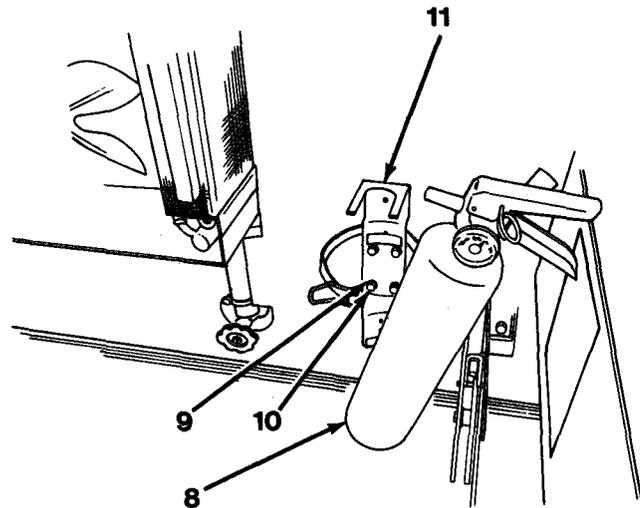

Figure 14-2
8. Attach hoist with sling through door and window openings in cab (4).
9. Using hoist and sling, lift cab (4) off.
10. Remove seals (7), if necessary.
11. Remove fire extinguisher (8), four capscrews (9), lockwashers (10) and bracket (11, Figure 14-2).